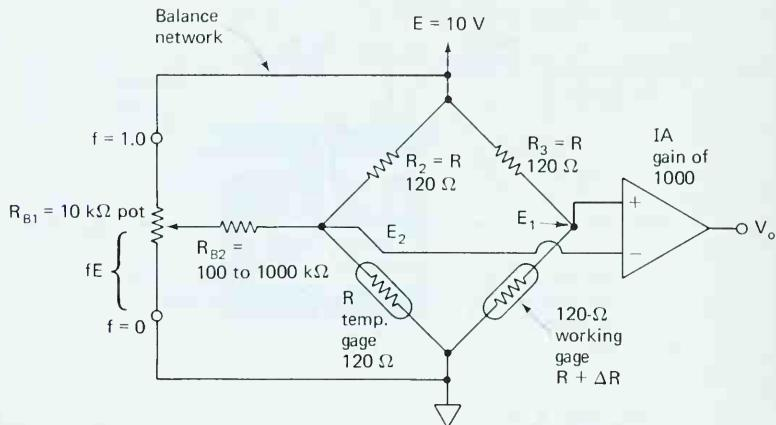
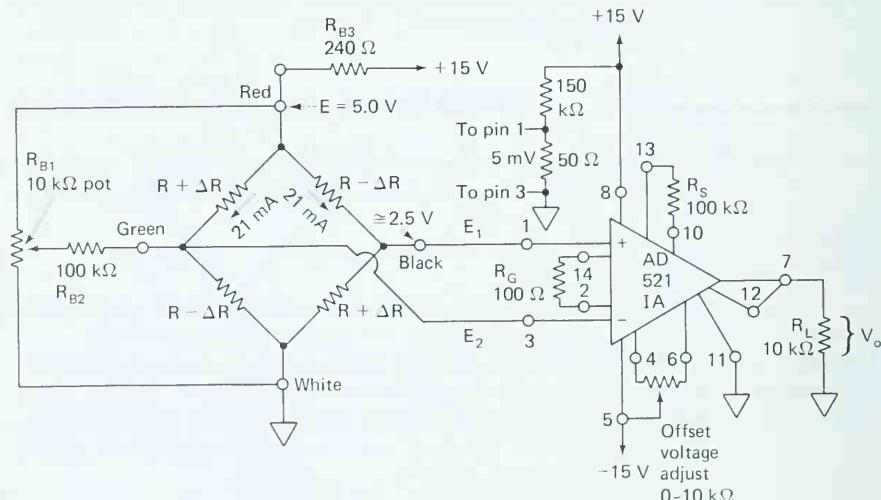

FIGURE 8-17 Improved balance network R_{B1} and R_{B2} allow easy adjustment of V_o to 0 V.
FIGURE 8-19 The AD521 instrumentation amplifier is used to amplify output of the four working strain gages [see Fig. 8-18(c)].
To analyze operation of the balance network in Fig. 8-17, assume that the R_2 and R_3 bridge resistors are reasonably equal, to within $\pm 1\%$. The strain gage's resistance should have equal resistances within several milliohms if the working gage is not under strain.
Of course, each bridge arrangement in Fig. 8-18 should be connected to a balance network [which, for clarity, was not shown (see Fig. 8-17 and Section 8-10)].
As shown in Fig. 8-19, an AD521 (Analog Devices) instrumentation amplifier (IA) is connected to a bridge arrangement of four strain gages. The gages are 120- Ω , SR4, foil-type strain gages. They are mounted on a steel bar in accordance with Fig. 8-18(c). Also the balance network of Fig. 8-17 is connected to the strain-gage
The test setup of Fig. 8-19 is used to measure the strain resulting from deflection of a steel bar. V_o is measured to be 100 mV. Calculate (a) ΔR ; (b) $\Delta R/R$; (c) $\Delta L/L$. Assume that the calibration procedure has been followed and that the gain from step 3 is 1000. The gage factor is 2.0.